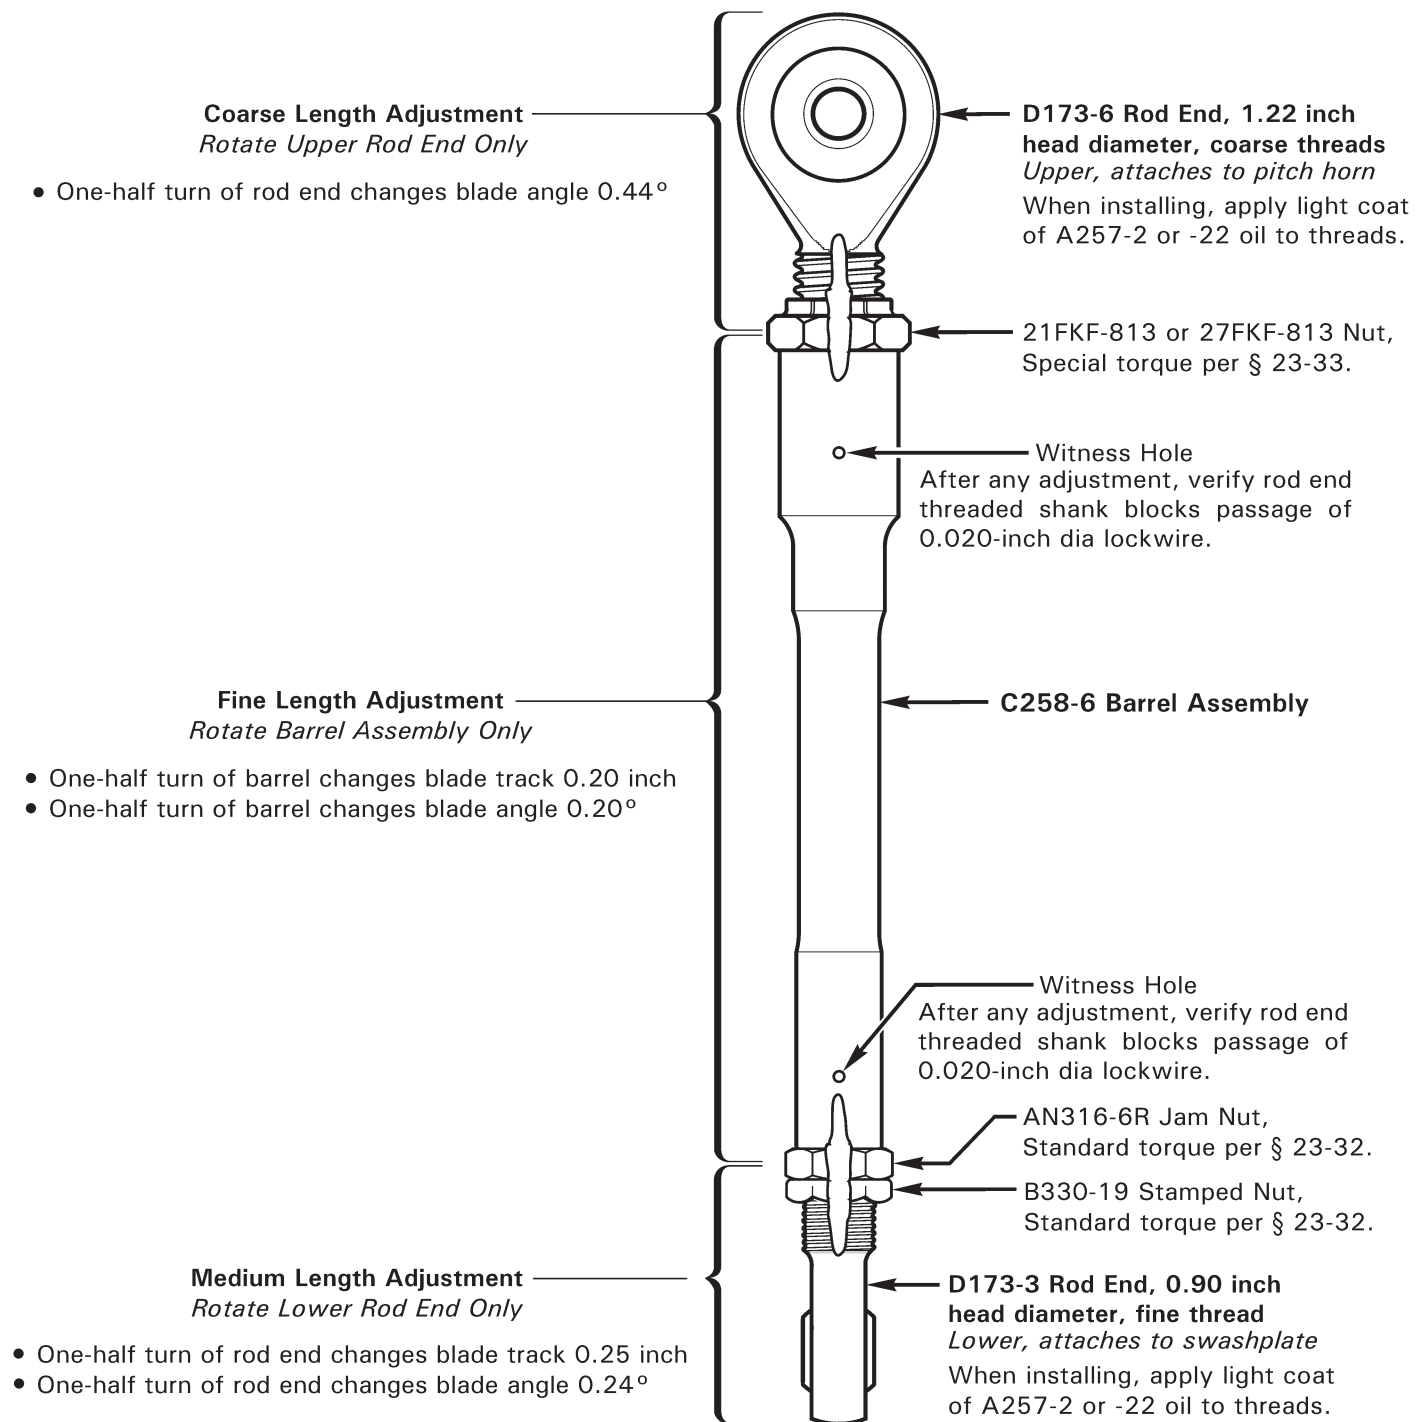

FIGURE 10-12A C258-8 MAIN ROTOR PITCH LINK
1. Refer to Figure 10-12A. Using backup wrench on barrel assembly, loosen stamped nut and jam nut at lower rod end, and 21FKF-813 or 27FKF-813 nut at upper rod end.
3. Refer to Figures 2-1 & 2-1A. Position rod ends to allow as much pitch link rotation as possible without binding. Using backup wrench on barrel assembly, special torque 21FKF-813 or 27FKF-813 nut per § 23-33, and standard torque jam nut and stamped nut at lower rod end per § 23-32. Verify rod ends' threaded shanks block passage of 0.020-inch diameter lockwire through barrel assembly witness holes. Torque stripe link per Figure 10-12A.
1. Refer to Figure 10-12A. Using backup wrench on barrel assembly, loosen stamped nut and jam nut at lower rod end. Remove hardware securing lower rod end to swashplate.
4. Refer to Figures 2-1 & 2-1A. Position lower rod end to allow as much pitch link rotation as possible without binding. Using backup wrench on barrel assembly, standard torque jam nut and stamped nut at lower rod end per § 23-32. Verify lower rod end threaded shank blocks passage of 0.020-inch diameter lockwire through barrel assembly lower witness hole. Torque stripe link per Figure 10-12A.
1. Refer to Figure 10-12A. Using backup wrench on barrel assembly, loosen 21FKF-813 or 27FKF-813 nut at upper rod end. Remove hardware securing upper rod end to pitch horn.
4. Refer to Figures 2-1 & 2-1A. Position upper rod end to allow as much pitch link rotation as possible without binding. Using backup wrench on barrel assembly, special torque 21FKF-813 or 27FKF-813 nut per § 23-33. Verify upper rod end threaded shank blocks passage of 0.020-inch diameter lockwire through barrel assembly upper witness hole. Torque stripe link per Figure 10-12A.